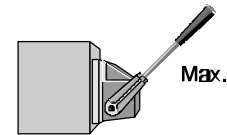

Fig. 3
5. Setting the maximum speed (fig. 3)
Push the linear lever toward the desired function by moving it to its end position. Then adjust the maximum speed by means of the "+" and "-" keys, i.e. by looking for the maximum point when the hydraulic valve begins to react. In order to make use of the full lever travel of the linear lever, do not actuate the "+" key any longer after the hydraulic valve has reached its maximum travel (fig. 3).